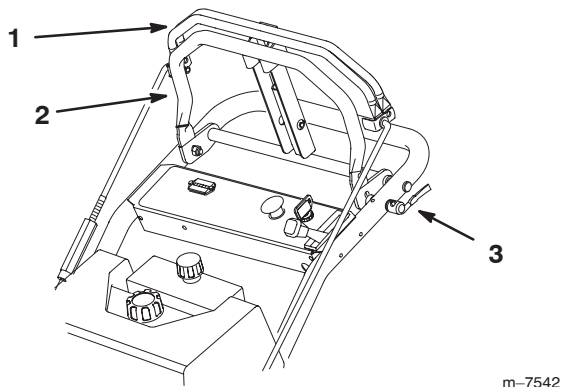

Figure 14
- Place the quick release levers in the unlock position (Figure 14).
- Move the reference bar forward or backward to set the desired forward speed. The pointer indicates approximate ground speed (Figure 14). When the bar is in the full forward position the ground speed is approximately 6 mph. When the reference bar is in the middle position the ground speed is approximately 3 mph.
- Place the quick release levers in the lock position (Figure 14).
1. To go forward, slowly press on the upper control bar against the reference bar (Figure 14).
2. To go straight, apply equal pressure to both ends of the upper control bar (Figure 14).
3. To turn, release pressure on the upper control bar side toward the direction you want to turn (Figure 14).
4. Adjust reference bar to maintain a comfortable pre-set ground speed (Figure 14).
5. To stop, release the upper control bar to stop both wheels (Figure 14).
1. To go backward, slowly pull the control bar rearward (Figure 14).
3. To turn, release pressure on the upper control bar side away from the direction you want to turn (Figure 14).
4. To stop, release the upper control bar to stop both wheels (Figure 14).
1. To stop, release the upper control bar to stop both wheels (Figure 14).